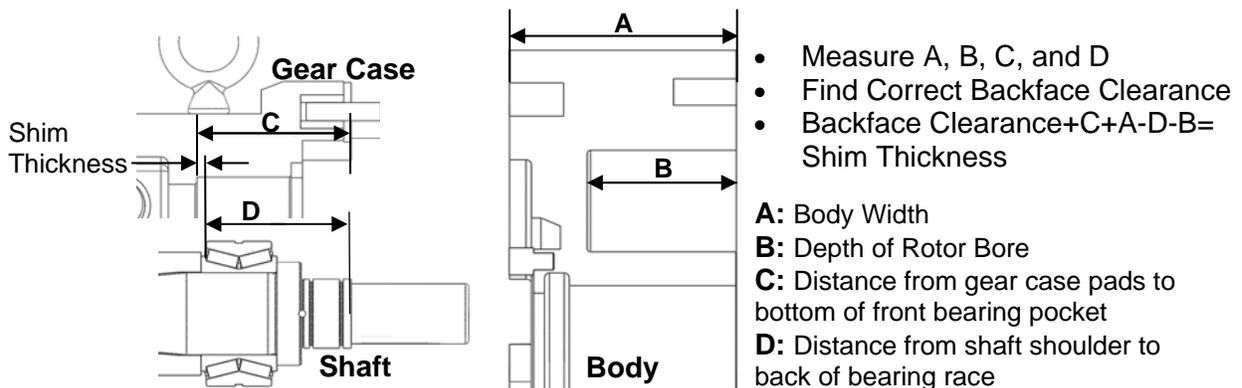

Figure 51: Calculating Shims
3) Shims located on the shaft behind the front bearing control the backface clearance of the pump; the space between the body and the rotor. If neither the shafts or bearings are being replaced, use the shims (if properly marked) removed at disassembly and reuse making sure they are installed in the correct bores. If replacing shafts or bearings, a process of calculating the required shims is necessary. Use Figure 51 and the following equation to calculate. To find the correct backface clearance see Table 8, page 30.